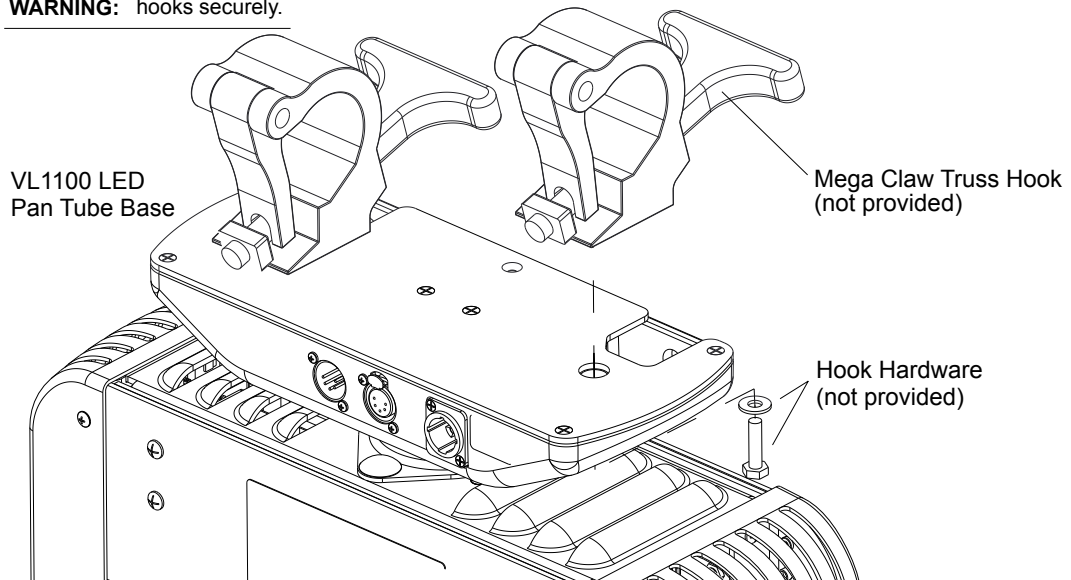

Figure 4: Example VL1100 LED Luminaire Truss Hook Installation
- Step 1. At pan tube base, attach two truss hooks as shown in **Figure 4**.